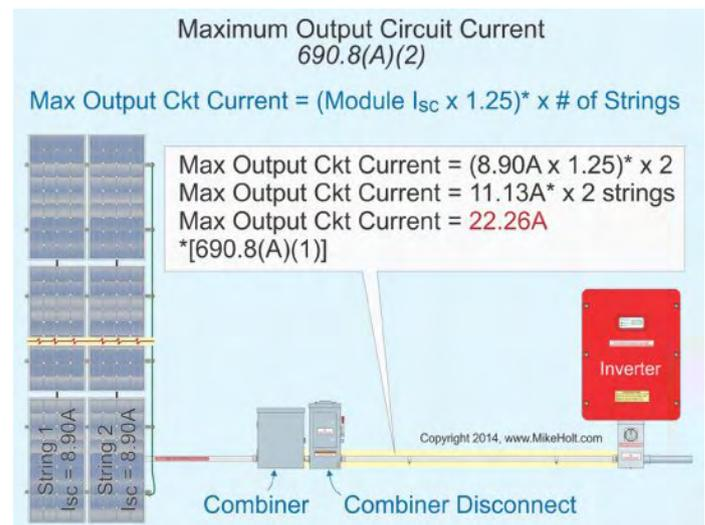

Figure 690-37
**(2) Maximum PV Output Circuit Current.** The maximum PV output circuit current is equal to the sum of parallel PV maximum source circuit currents as calculated in 690.8(A)(1).
**Example:** What's the maximum PV output circuit current for two PV source circuits (strings), each containing 12 dc modules having a nameplate  $I_{sc}$  of 8.90A? Figure 690-37